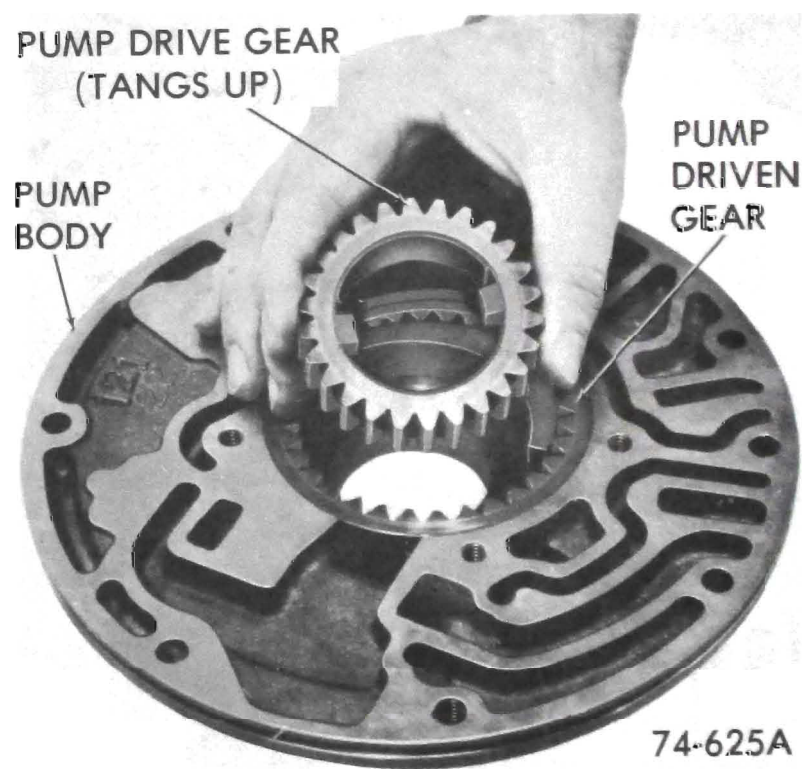

Figure 76-161
11. Mark drive and driven gears for reassembly in same position and remove drive gear. See Figure 76-161.